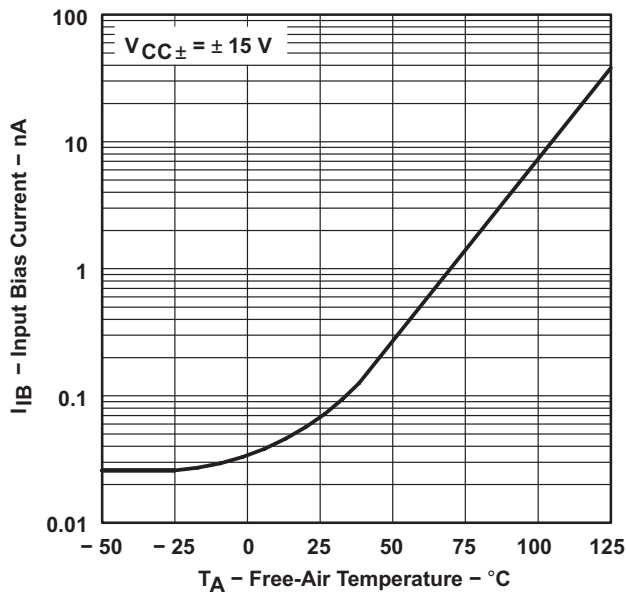

Figure 17.
- (1) All characteristics are measured under open-loop conditions, with zero common-mode input voltage, unless otherwise specified.
(2) Input bias currents of a FET-input operational amplifier are normal junction reverse currents, which are temperature sensitive, as shown in Figure 17. Pulse techniques must be used that maintain the junction temperatures as close to the ambient temperature as possible.